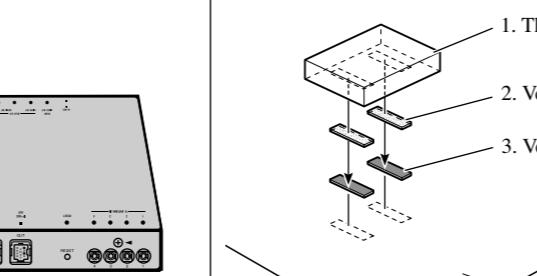

Fig. 2
**Installing the Unit (Fig. 2)**